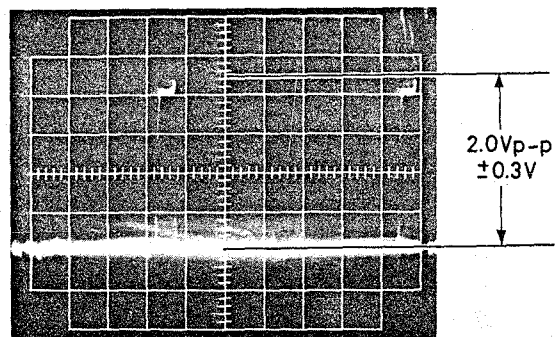

Fig. 4-14 Beam Current Adjustment
8. Adjust ABO control (RT1325) until the waveform is clipped at $2.0V_{p-p} \pm 0.3V$ (Fig. 4-14).